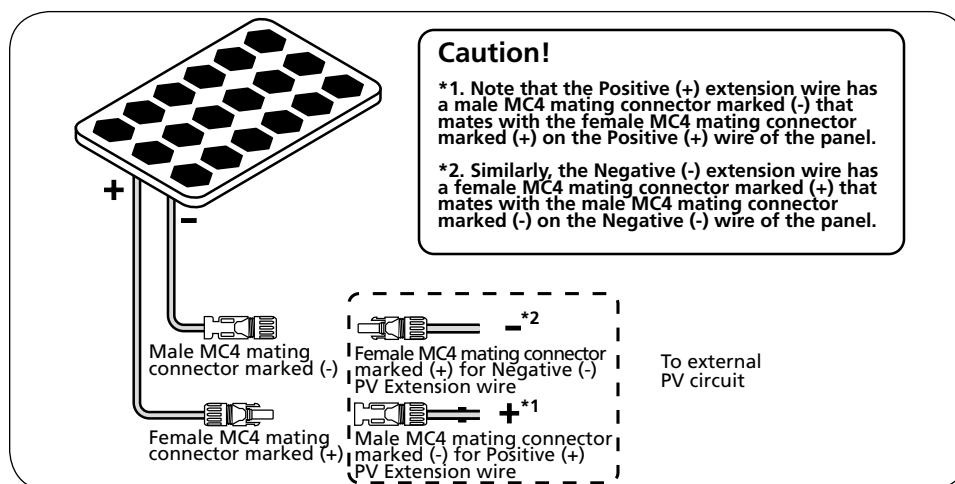

Fig 6.4. Connecting extension wires to the output wires of solar panel
Fig. 6.4 shows the output wires and connections on a solar panel. The output wires from the junction box of the solar panel are terminated with the help of MC4 connectors. The Positive (+) wire is terminated with a MC4 Female Connector (marked "+") and the Negative wire is terminated with a MC4 Male Connector (marked "-").
6.4. Extending to the output wires of the solar panel (Fig. 6.4)